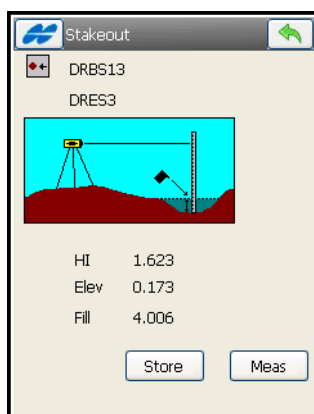

Figure 9-65. DL Stakeout
4. On the level *Stakeout* screen, tap the **Meas** button to measure the elevation and compute a cut/fill value. Tap **Store** to set a code for the point, the name, and a photo note; set the layer name and plotting parameters, to view the point information and save the staked point (Figure 9-65).